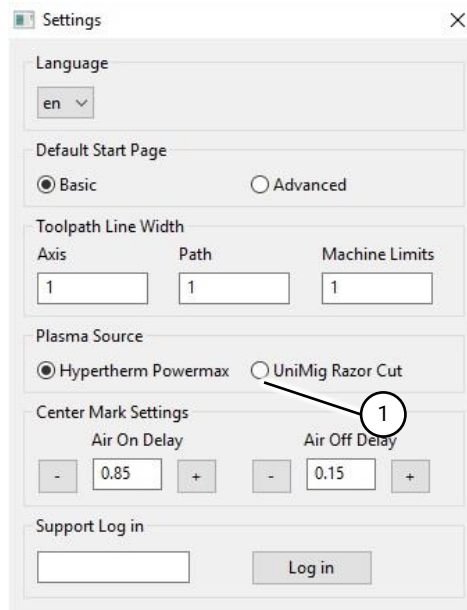

Fig 44 Settings window
9. From the Settings window select the correct plasma source (Fig 44 (1)). SwiftyCNC will need to be restarted.